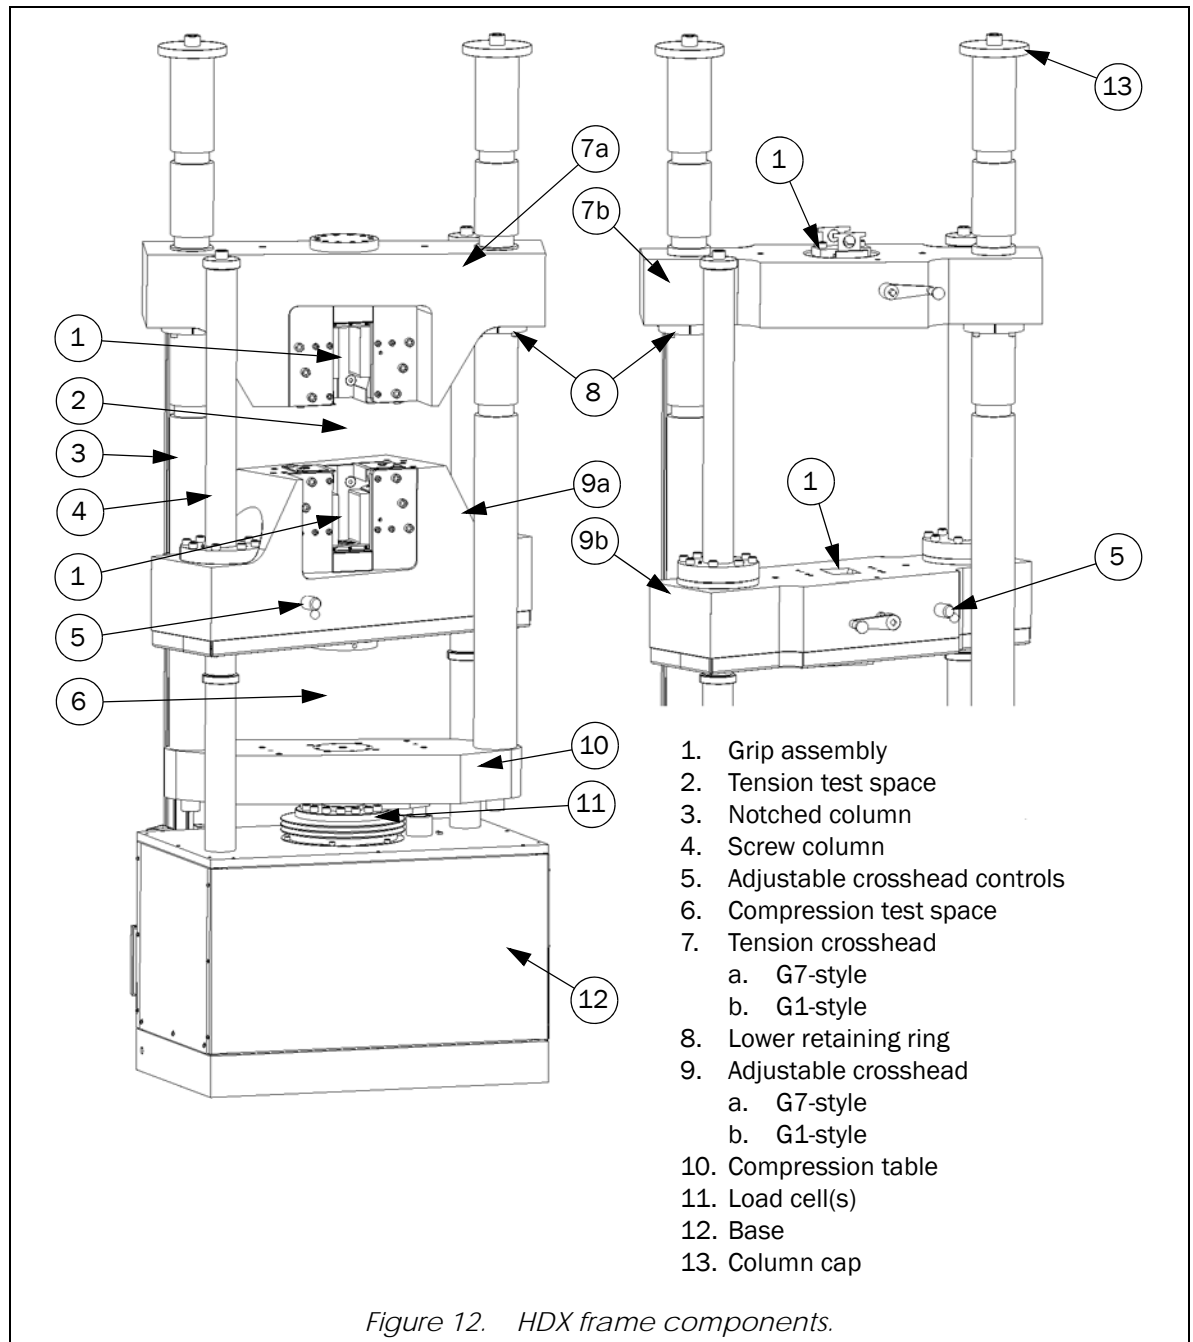

Figure 12. HDX frame components.
The HDX frame is a dual test space frame capable of static tension and compression testing. The dual test space design provides both a dedicated tension test space (2, Figure 12) and a dedicated compression test space (6). To accomplish this, the frame is made up of two separate units: a loading unit and a fixed unit (see Figure 11). The loading unit applies the load to the specimen during the test. The loading unit components are: a tension crosshead, two notched columns, a compression table, and the hydraulic cylinder. The fixed unit acts as the rigid member during the test. The fixed unit components are: an adjustable crosshead, two screw columns, and the base. The fixed unit is supported in the base by a backlash eliminator assembly that provides enough force to support the static weight of the components and prevent backlash from appearing in the test load.
The tension crosshead (7a or 7b, Figure 12) is mounted to two notched columns (3) and is part of the loading unit. The position of the tension crosshead can be adjusted when it is necessary to change the height of the tension test opening. The crosshead can be placed at any of the available notches in the notched columns. Crosshead adjustment is only done between tests, never during a test. For procedures on adjusting the crosshead, refer to information provided in the System Operating Instructions (supplied separately).
One or more strain gauged load cells are used to measure the force applied to the test specimen. 1000HDX frames use a single load cell and the 1500HDX frames use three load cells. The load cells (11, Figure 12 on page 29) are mounted between the compression table and piston. This mounting arrangement provides a load measuring system that is independent of the hydraulic system. This means that the force measured by the load cells is free of interference due to piston friction and hysteresis; it is a direct force measurement. For 1500HDX frames, the electrical signals from the three load cells are added together to obtain a single load reading.